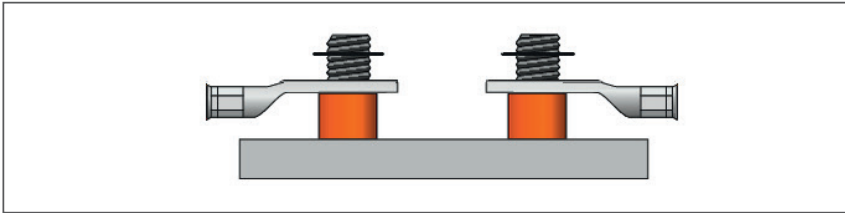

Fig. 5-9: HV+ power cables, place the ring terminals on the copper domes
- ☞ Place the ring terminals of the HV+ power cables on the copper domes as shown in Fig. 5-9.